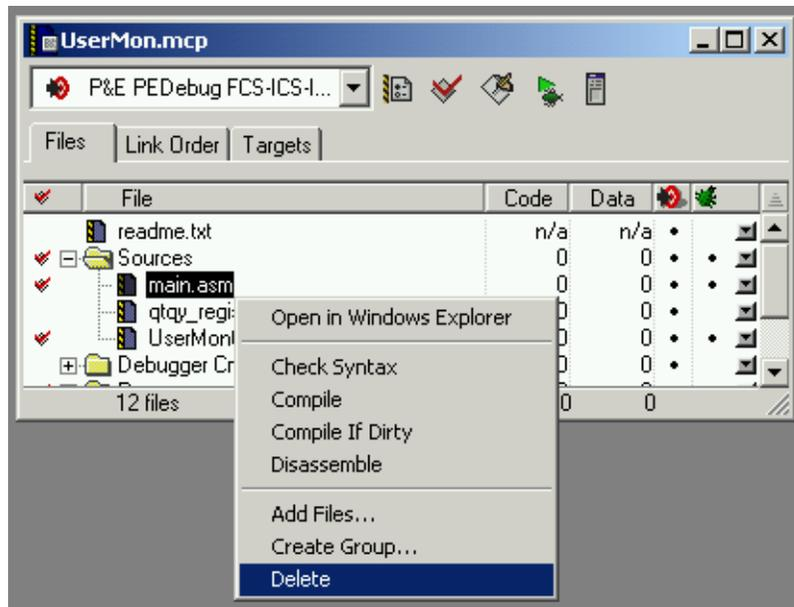

Figure 22. Delete Files from Project Window
18. In the UserMonitor project window, right-click on the main.asm file. (Figure 22)